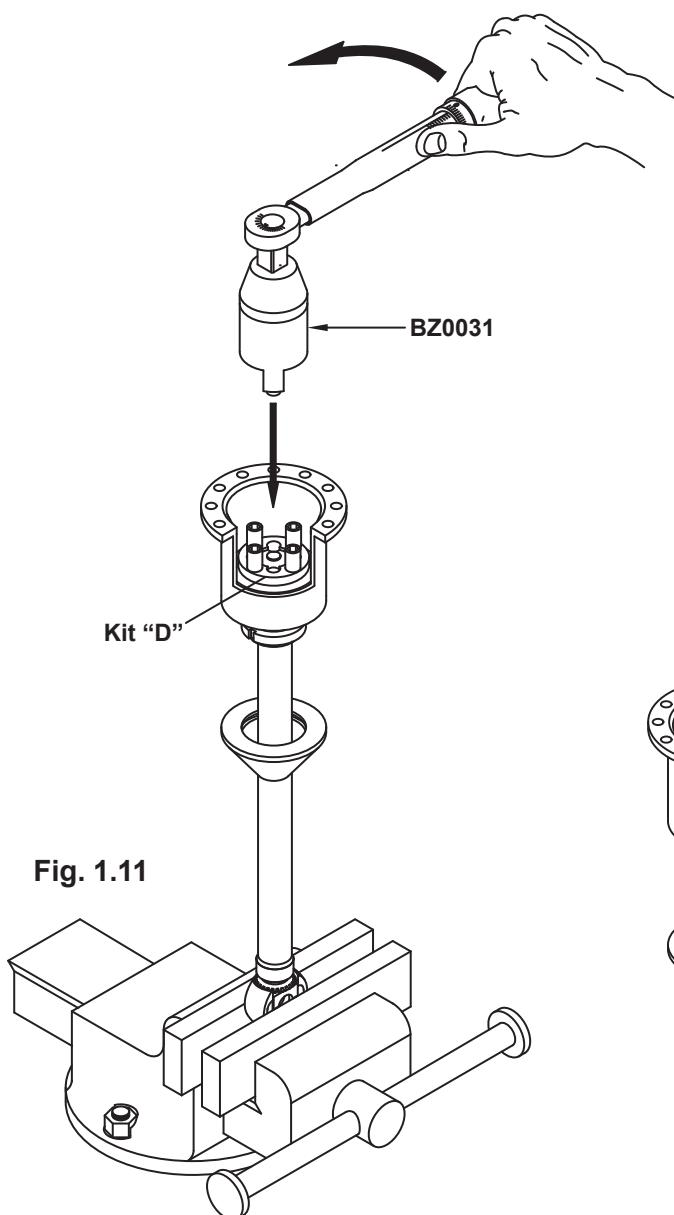

Fig. 1.11
1.5.03) Using the supplied spanner BZ0031, unscrew and disassemble the output shaft (Kit "D") and the bearing unit pos. 43-44-45 (Fig. 1.11 – 1.12).
a) Unscrew the bottom casing pos. 40 until the semi-spherical end part and the output shaft are unable to turn.
b) Slowly tighten the casing pos. 40 so that there is play of approx. 0.1 mm between the teeth of the pinion pos. 73 and the pin pos. 80 (check with gauge) fig. 1.11.
c) Block the ring nut pos. 70 slightly, make sure that the rotation of the semi-spherical end part has no points of friction.